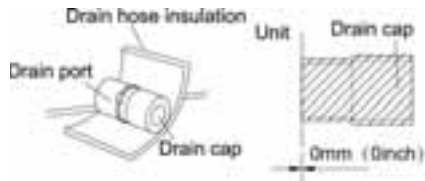

Fig. 4.27
- (10). The unused drain port also should be insulated properly (Fig. 4.27).